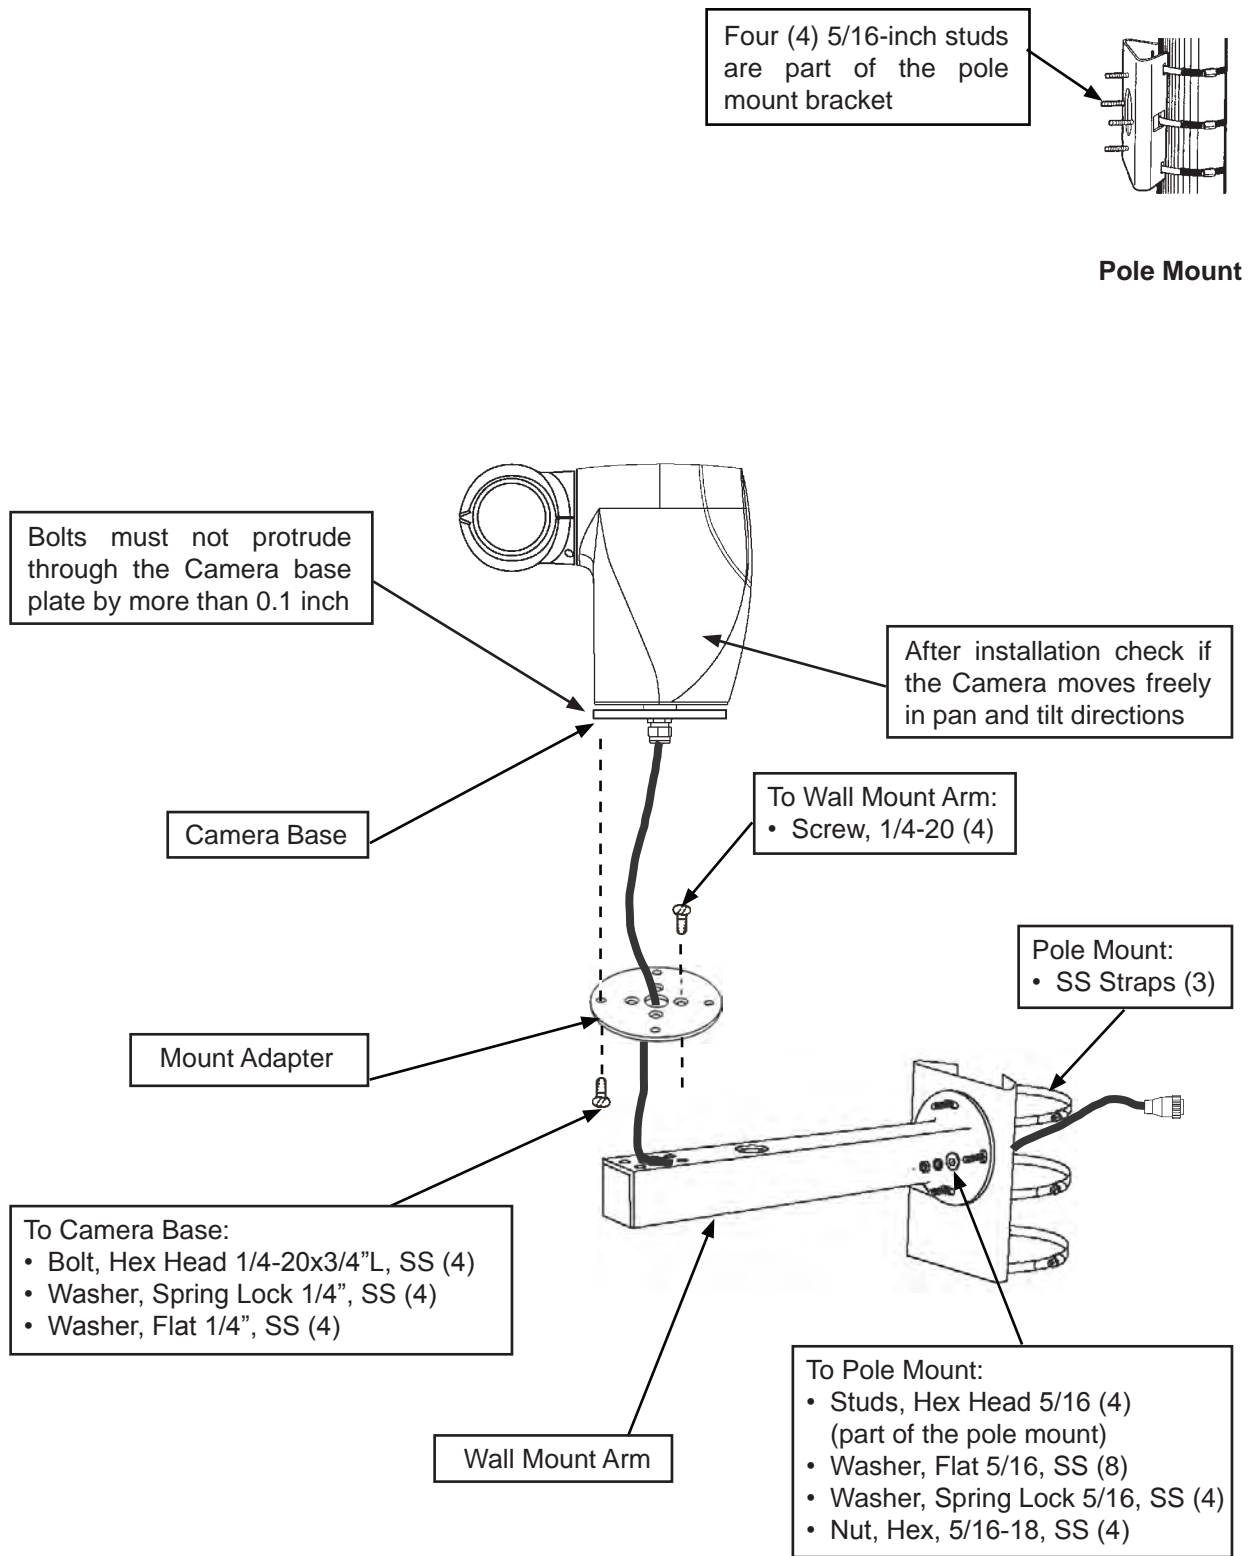

Figure 24. Installation to the Pole
- has 5/16-inch studs permanently attached for a wall mount installation. See Figure 24